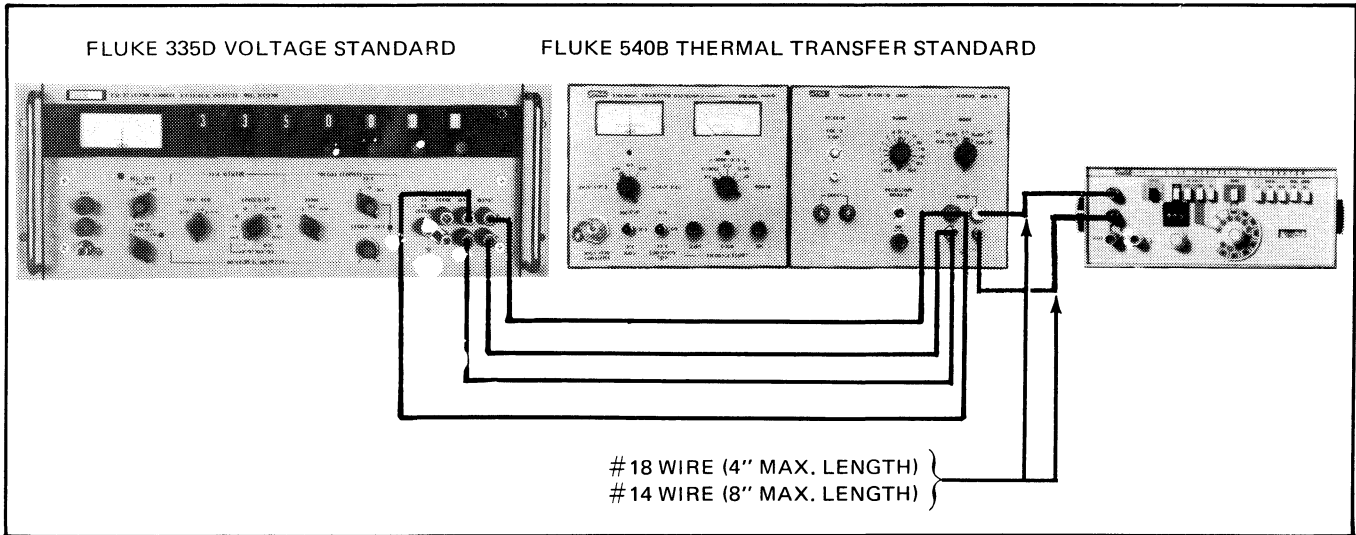

Figure 4-5. THERMAL TRANSFER EQUIPMENT CONNECTIONS
- a. Make the equipment connections shown in Figure 4-5.